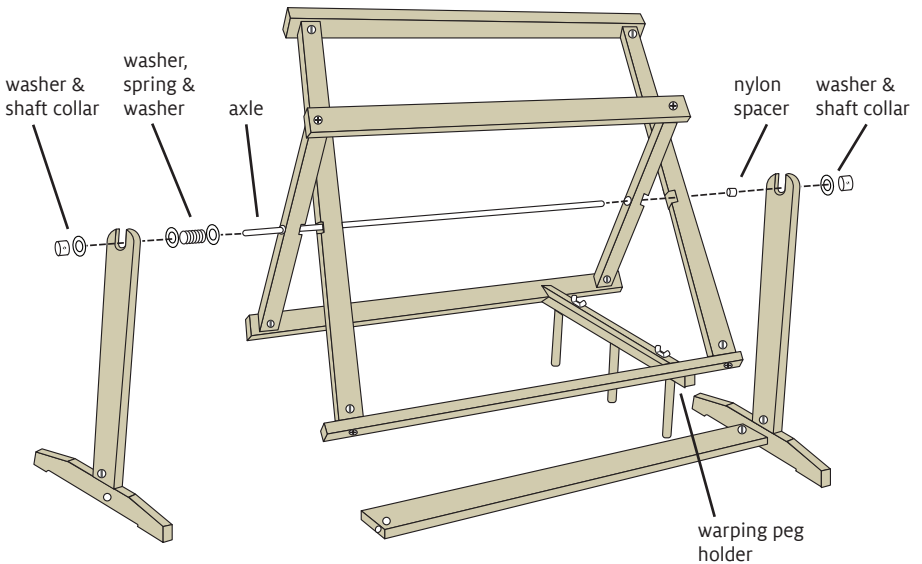

FIGURE 2: AXLE ASSEMBLY
4. Insert a 1/4-20 x 2-1/2" Phillips truss head machine screw into each base and secure with a 1/4-20 barrel nut in each end of the cross brace (Figure 2).
6. Place the nylon spacer, one 1/2" SAE washer, and a 1/2" shaft collar on one side of the axle (Figure 2). Tighten the shaft collar using the 1/8" hex key.
Loosen the wing nuts on the warping peg holders. Set each holder into place and tighten the wing nuts (Figure 2). The two warping peg holders may be positioned anywhere between frame cross slats.